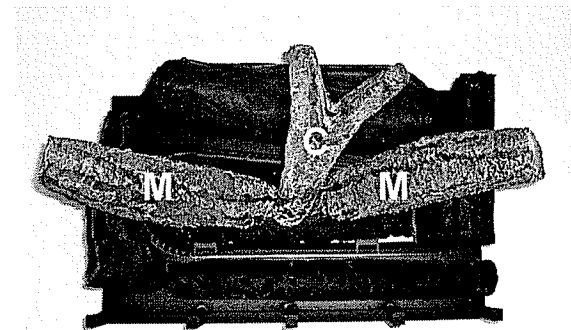

FIGURE 11C
3. Position top logs 'M' and 'C' onto the previously positioned logs as shown in figure 11C.